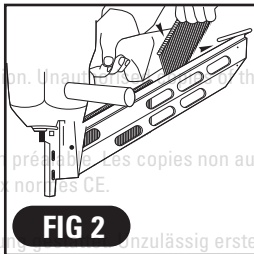

FIG 2
2. Hold nailer down with magazine tilted downwards. Insert sticks of nails. (Fig 2)